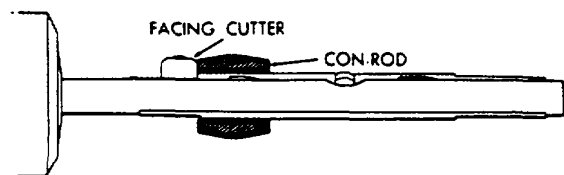

FIGURE 48
- (10) **FACING CUTTER.** During the expanding operation, some of the bushing metal may have been squeezed out past the end of the bore. After expanding the bushing, slide the part to the rear of the mandrel and trim off the extruded portion of the bushing with the Facing Cutter. Reverse the part on the mandrel and trim opposite end (Figure 48).